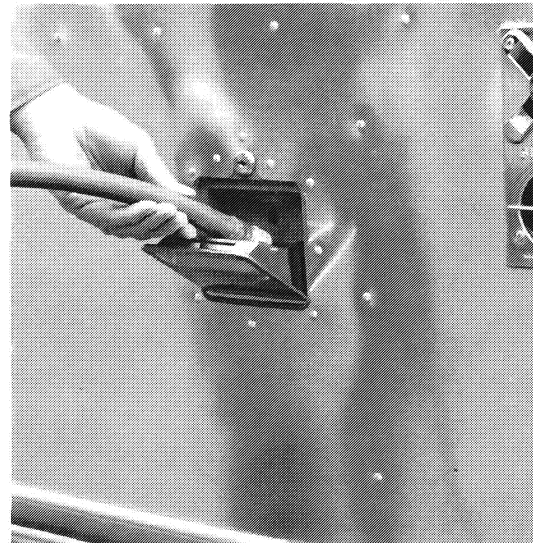

Fig. 3—Water Tank Fill Spout
**The water tank** is located under the floor just forward of the axle. To fill the water storage tank, open the filler spout (see Fig. 3, page 74) on the exterior wall adjacent to the galley, and fill with a hose or a bucket. Close and lock the spout and the water system is ready to use.